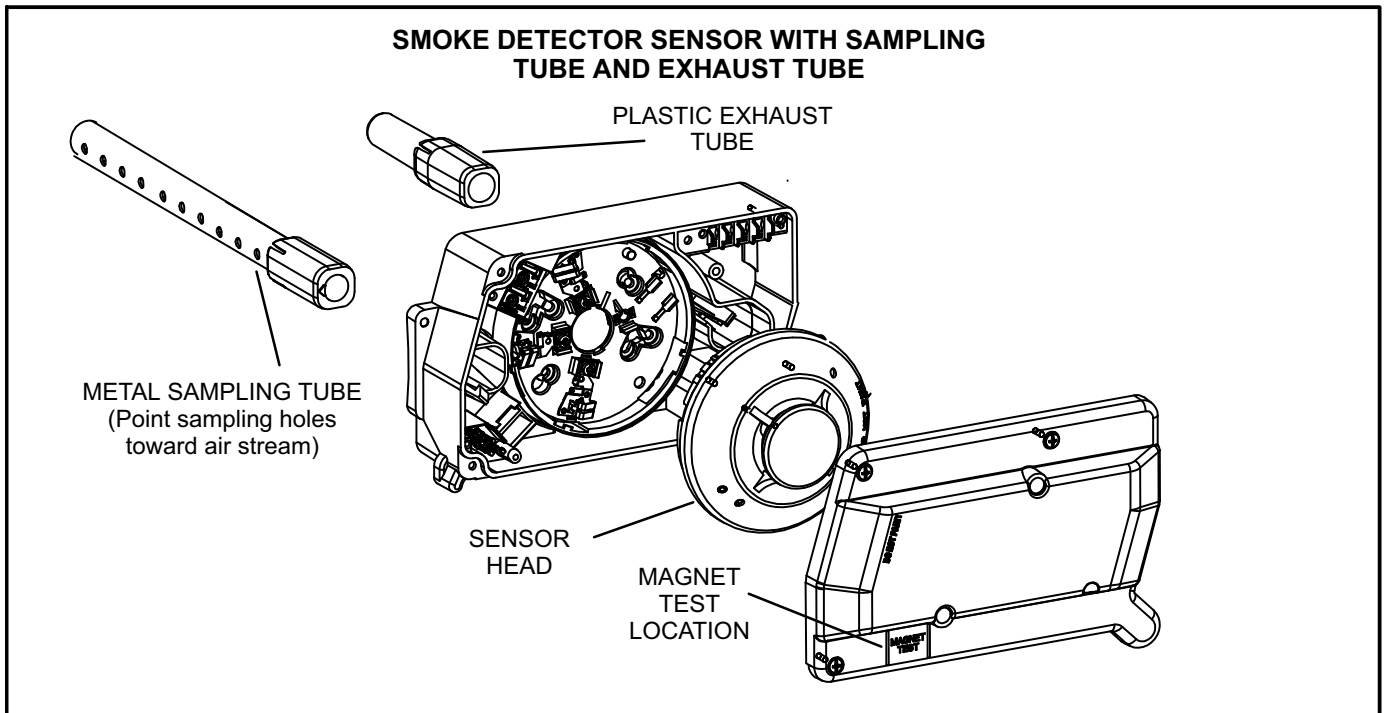

FIGURE 3
- 2 - Slide metal sampling tube onto the back side of the sensor. When sensor is installed in return air applications, slide plastic exhaust tube onto back side of sensor. See figure 3.